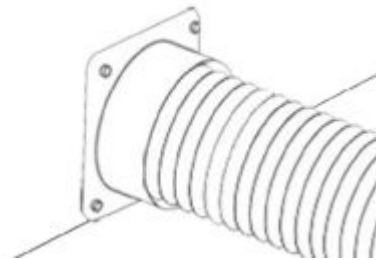

Fig. 3
2. **Position Ducting:** Place your 4" ducting over the Exhaust Port located at the back of the machine and hold. Secure with 4" ducting clamp. (See Fig. 3)